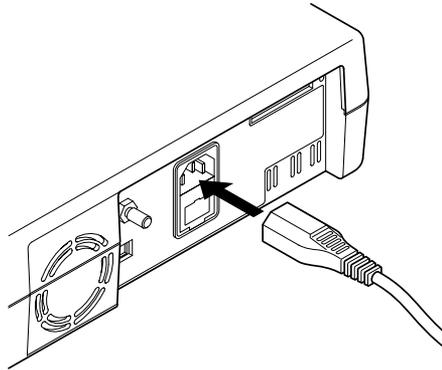

Figure 11: Connecting the Power Cord to the Monitor
2. Connect the power cord (the end with the rectangular-shaped connector) to the rear of the monitor, as shown in Figure 11.